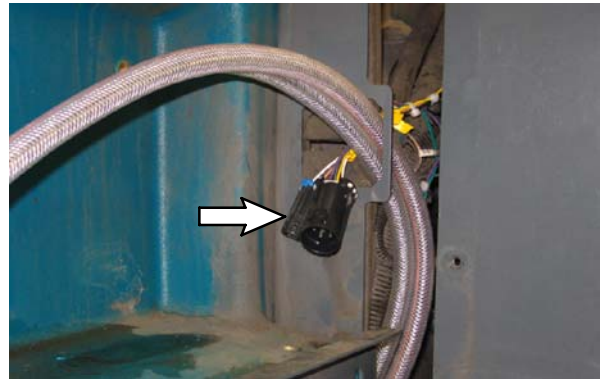

FIG. 6
38. Route *ec-H20* harness *ec-H20* assembly leads into the the operator compartment. Refer to Fig. 6.